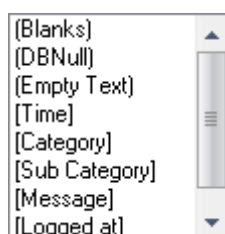

Figure 7-28. Drop-down menu of Custom Filter dialog with arguments
11. Click  of the right column to open the drop-down menu, see Figure 7-28.